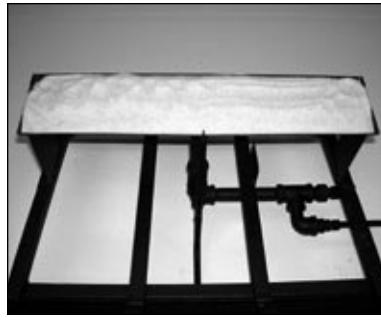

Figure 3-1
4. Pour silica sand into raised rear burner completely covering pipe in pan. For LP Gas models, use vermiculite instead of sand. (Figure 3-1)